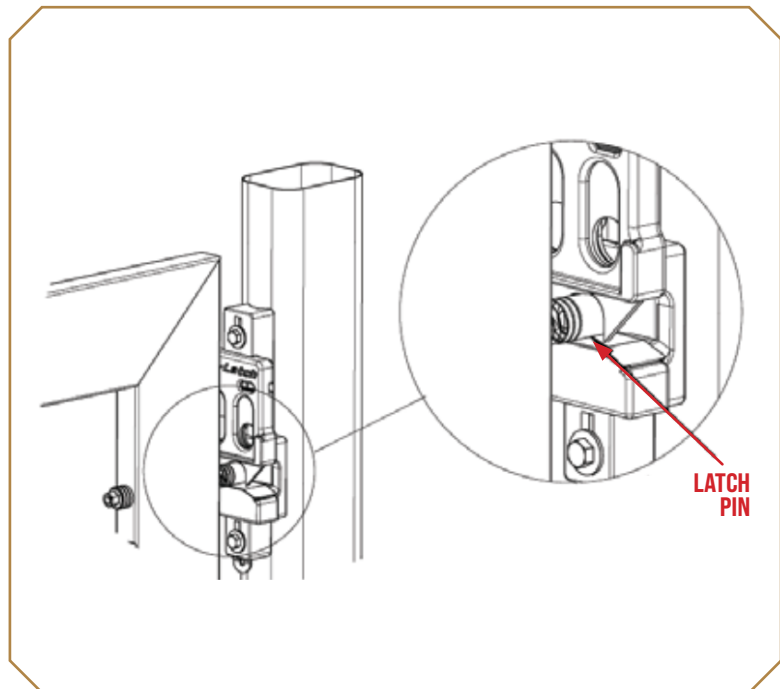

Figure 6
5. Push the latch upward to contact the latch pin and torque the mount screws to 27 Nm (Figure 6).